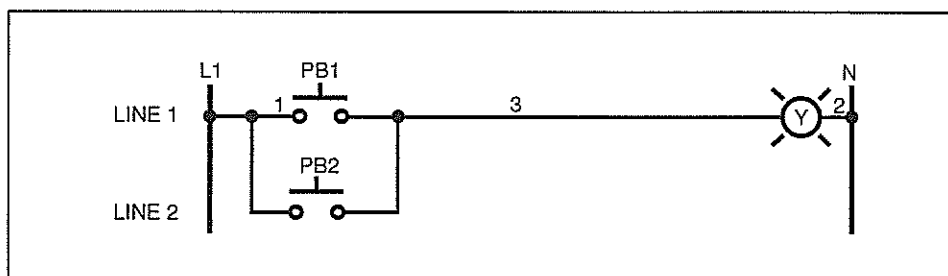

Figure 33. The OR Logic Circuit for Skill 7
- 2. Connect the OR logic circuit as shown the ladder diagram in figure 33.